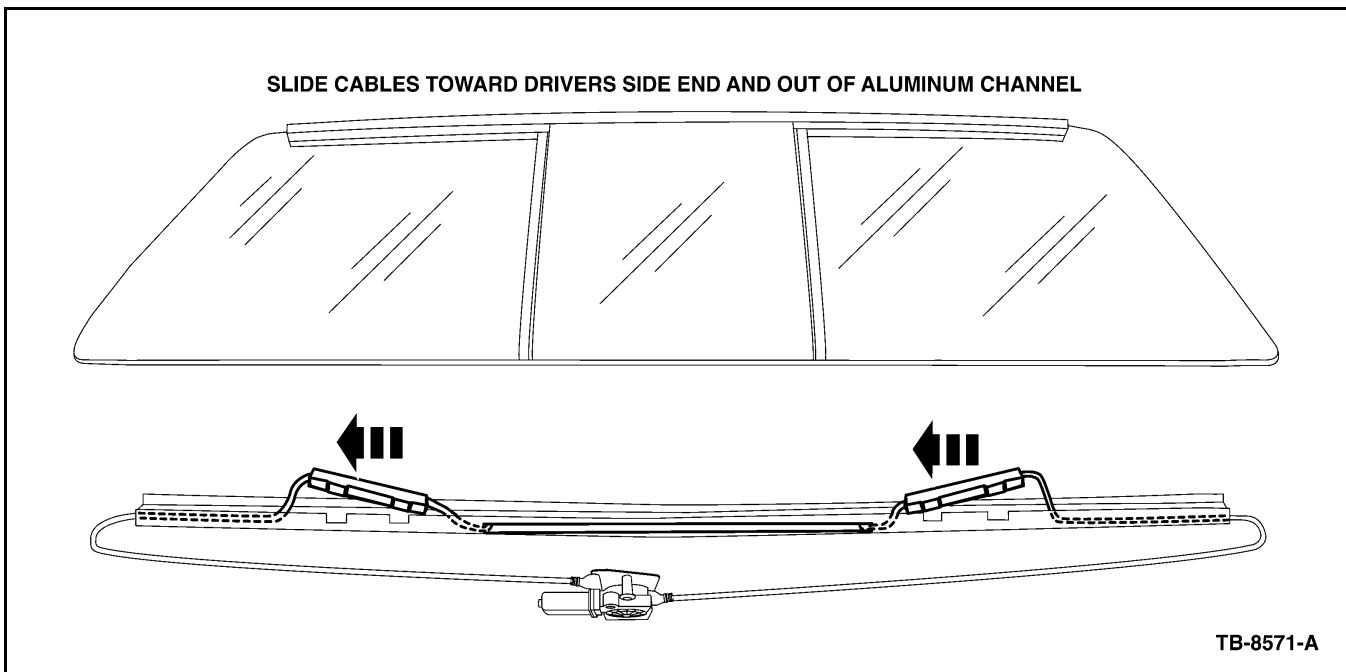

Figure 12 - Article 06-15-5
25. Once cable assemblies are loose from aluminum channel, slide glass carrier towards driver's side end and out of aluminum channel (Figure 12).